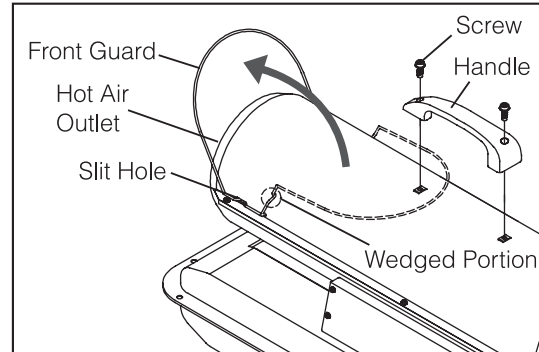

Figure 6
A. For DFA-45T/DFA-70T Models Only (Figure 6)
2. Align the holes in the upper shell with the 2 mounting holes on the handle as shown in Figure 6.